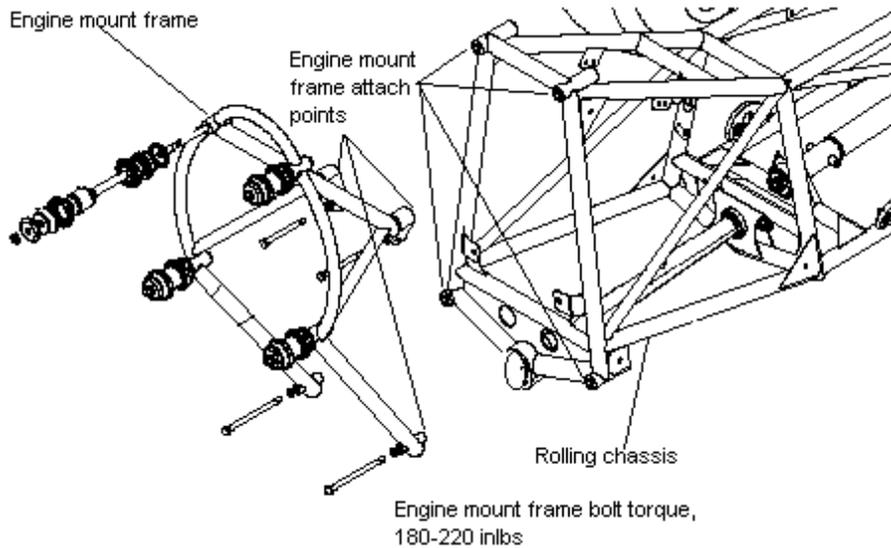

Figure 71-25 Engine Mount Frame Removal and Installation
1. Refer to Figure 71-25. Remove engine in accordance with the Engine Removal procedure on page 7 of this chapter.